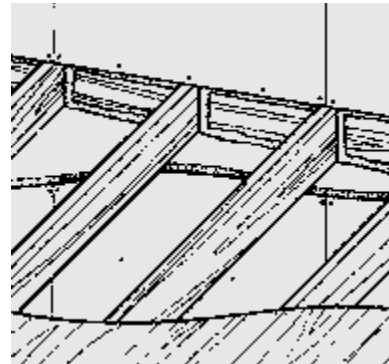
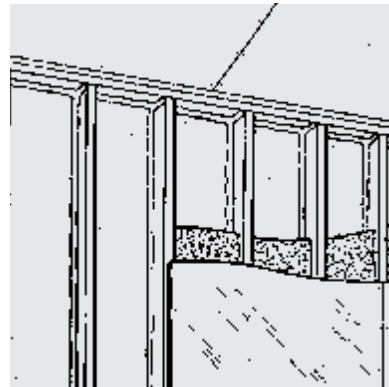
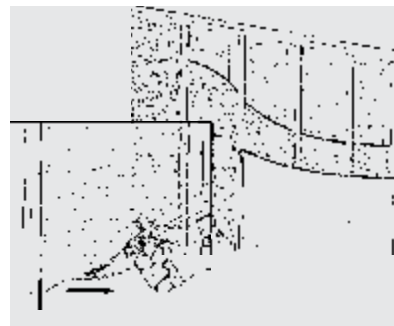

Figure 2: Sealing wall-ceiling joints **S I**
Figure 6: Sealing stud wall cavities ("picture framing")
Figure 7: Flash and batt (1/2"-1" [13 mm-25 mm] thickness)
See Figures 2, 3, 4, 5, 6 and 9 for examples of air-sealing applications where either Froth-Pak™ Foam Sealant or Froth-Pak™ Foam Insulation may be used. Some applications may require an ignition barrier to meet code requirements. Froth-Pak™ Foam Insulation can be used as both an insulation and an air sealant, helping reduce energy loss in both of these ways. See Figures 7, 8 and 10 for examples of Froth-Pak™ Foam Insulation applications.
- Wall-ceiling joints (Figure 2)
To simply air seal cracks, crevices and penetrations within cavities, use **Froth-Pak™ Foam Sealant**. As a best practice, spray **Froth-Pak™ Foam Sealant** in a "picture frame" fashion in the wall cavity before installing batt insulation to block out drafts and enhance insulation performance (Figure 6). Use **Froth-Pak™ Foam Sealant** to air seal wall-ceiling joints. See Figure 2.
Flash and batt (1/2"-1" [13 mm- 25 mm] foam thickness) is another effective technique to insulate and seal the wall with **Froth-Pak™ Foam Sealant**. See Figure 7.
Froth-Pak™ Foam Insulation is an effective insulation and air sealant for stud wall cavities (Figures 7 and 8). A thermal barrier is required to separate **Froth-Pak™ Foam Insulation** from the interior.